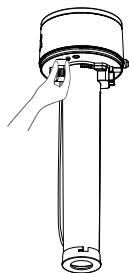

Fig 1
1. Rotate counterclockwise to unscrew connecting hose of the main unit and the atomizing head as shown in **Fig 1**.